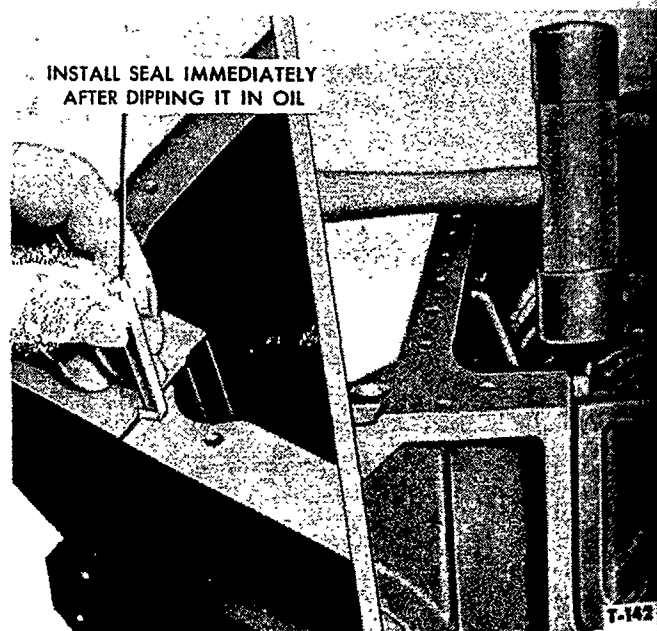

Figure 66—Installing Bearing Cap Vertical Seals
4. Dip each rear main bearing cap vertical seal in engine oil and immediately slide it into place as shown in Figure 66. Tap the seal until it is firmly in place. The ends of the vertical seals should extend approximately $\frac{3}{8}$ " beyond the surface to provide a good seal.